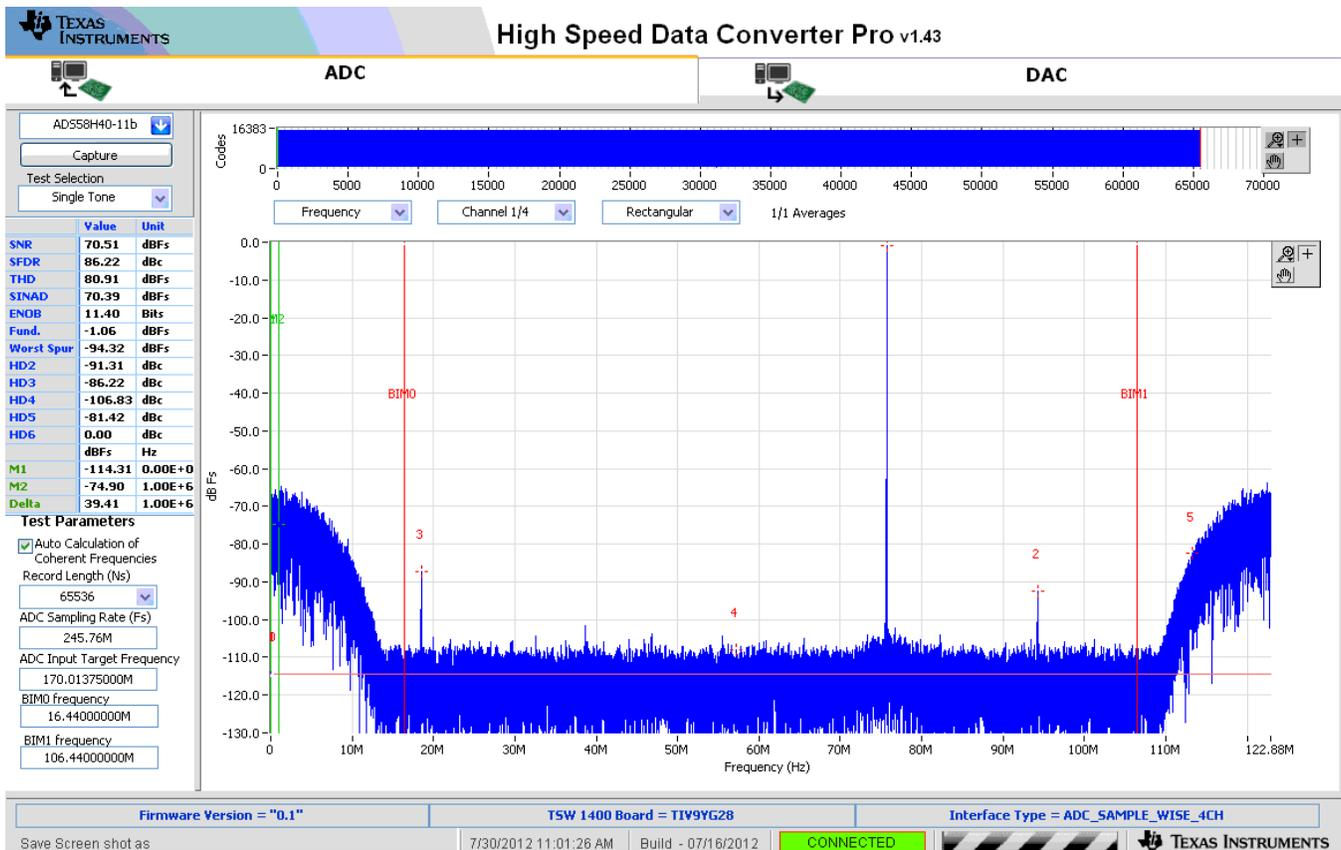

Figure 12. ADS58H4x 11-bit SNRBoost Mode, Single Tone Test Result: $F_s = 245.76$ MSPS, $F_{in} = 170$ MHz
- Observe an FFT result similar to that of Figure 12.